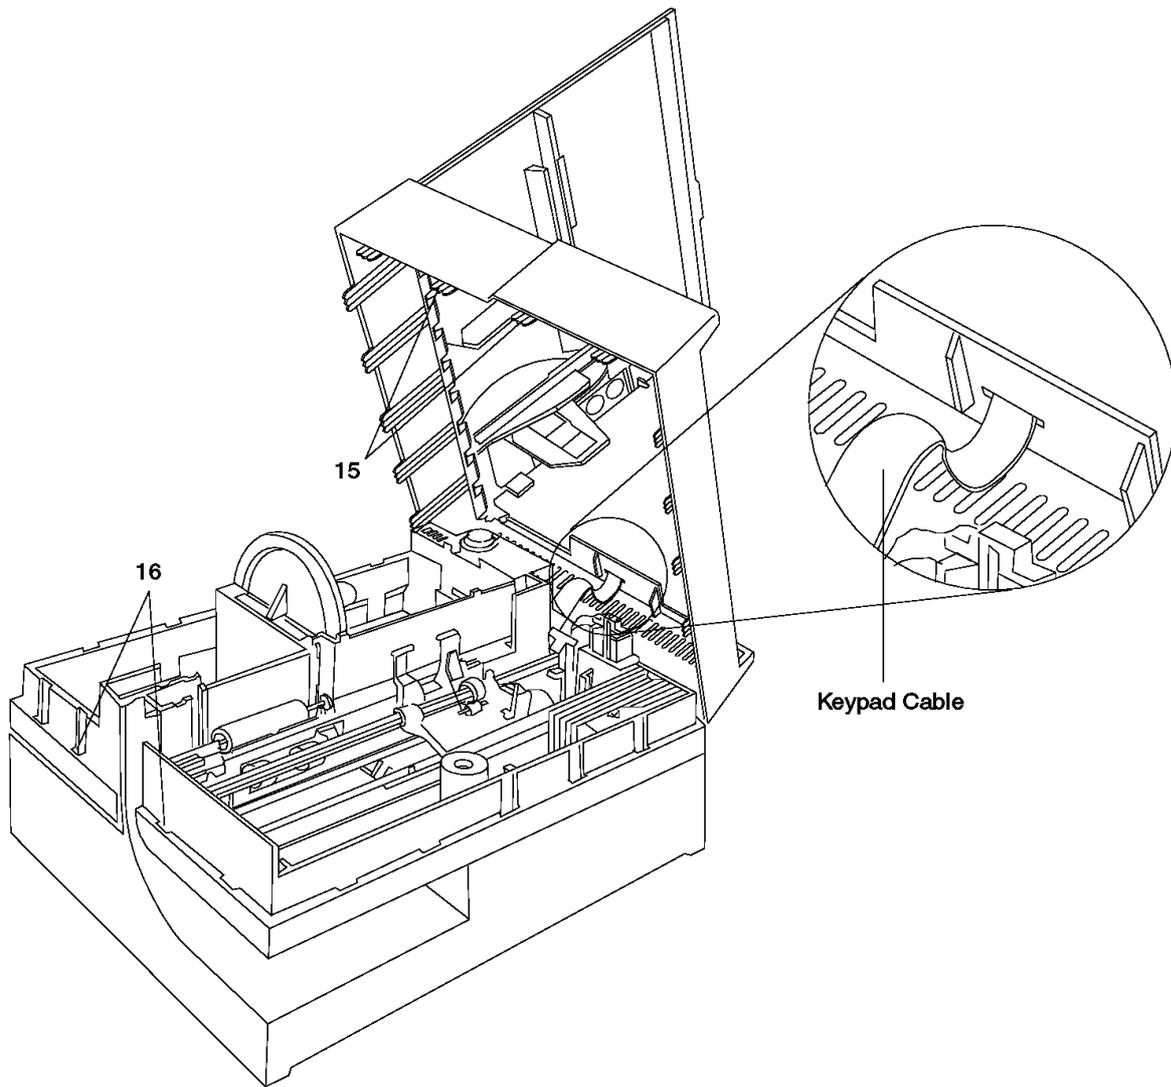

Figure E-20. Part 6. Installing the Top Cover
31. To reinstall the top cover assembly, set the assembly on the printer with the left end raised as shown in Figure E-20.
33. Lower the left side of the top cover while aligning the holding tabs (15) over the openings (16) on each side of the document insert slot.